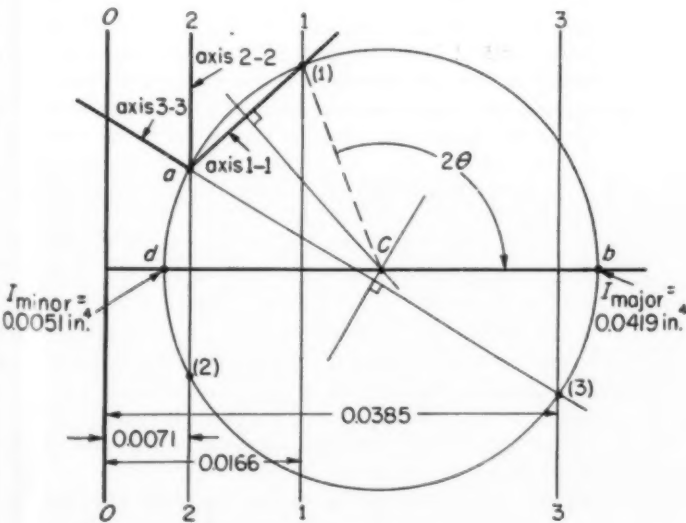

Fig. 4—Mohr's moment of inertia circle for determining location and magnitude of principal moments of inertia
1. In Fig. 4 the vertical line  $OO$  represents a zero moment of inertia value. From this line measure off distances horizontally which will represent  $I_1$ ,  $I_2$ , and  $I_3$  values as determined graphically by employing the cubic curve method. Construct vertical lines 1-1, 2-2, and 3-3 at these points.
2. Superpose the axes of Fig. 3 on any point  $a$  of line 2-2 such that axis 2-2 of Fig. 3 is colinear with vertical line 2-2 of Fig. 4. It is important that Fig. 3 is superposed and not its mirror image.
3. Extend the superposed axes until each axis intercepts its respective line of Fig. 4; that is, axis 1-1 intercepts line 1-1 establishing co-ordinates of the circle at point (1). Similarly axis 2-2 intercepts line 2-2 to establish co-ordinates of point (2), and axis 3-3 intercepts line 3-3 at point (3).
4. Erect perpendicular bisectors of lines  $a$ -(1) and  $a$ -(3). The intersection of these bisectors at  $c$  is the center of the inertia circle.
5. Scribe a circle about  $c$  through points (1) and (3).
7. Angle  $(1)cb$  is equal to twice the angle between axis 1-1 and the  $I_{maj}$  axis. The actual angle is measured in the direction as shown on the circle in Fig. 4.